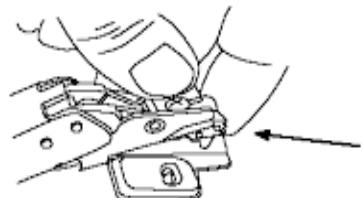

Fig. 8
3. Mount hinges to the door (Fig. 8). Secure with screws provided. DO NOT OVER TIGHTEN THE HINGE MOUNTING SCREWS. Use a Phillips screw driver to tighten these screws by hand - just to where they feel snug.